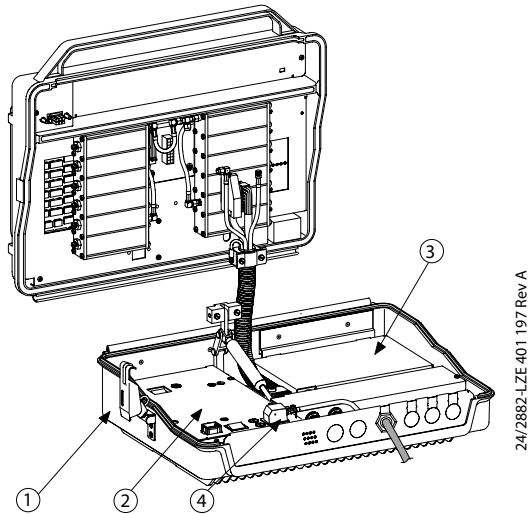

Figure 3 Base Radio Unit 3 (BRU3)
Refer to Figure 3 for the different parts of the BRU3:
2. Unplug the FE Mains Power Cable from the FE Power Supply Unit (FPU), refer to Figure 3.